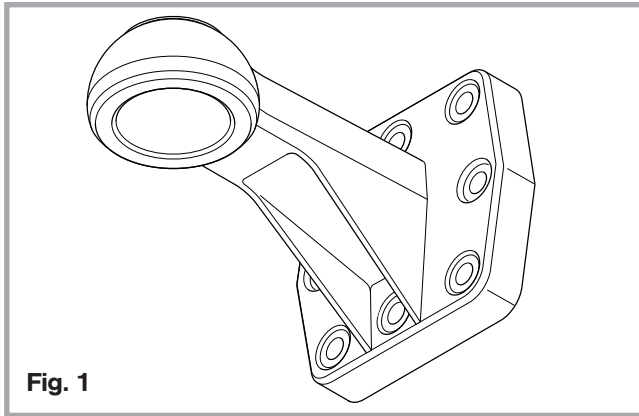

Fig. 1
- can be screwed onto suitable trailer drawbars (see Fig. 1)